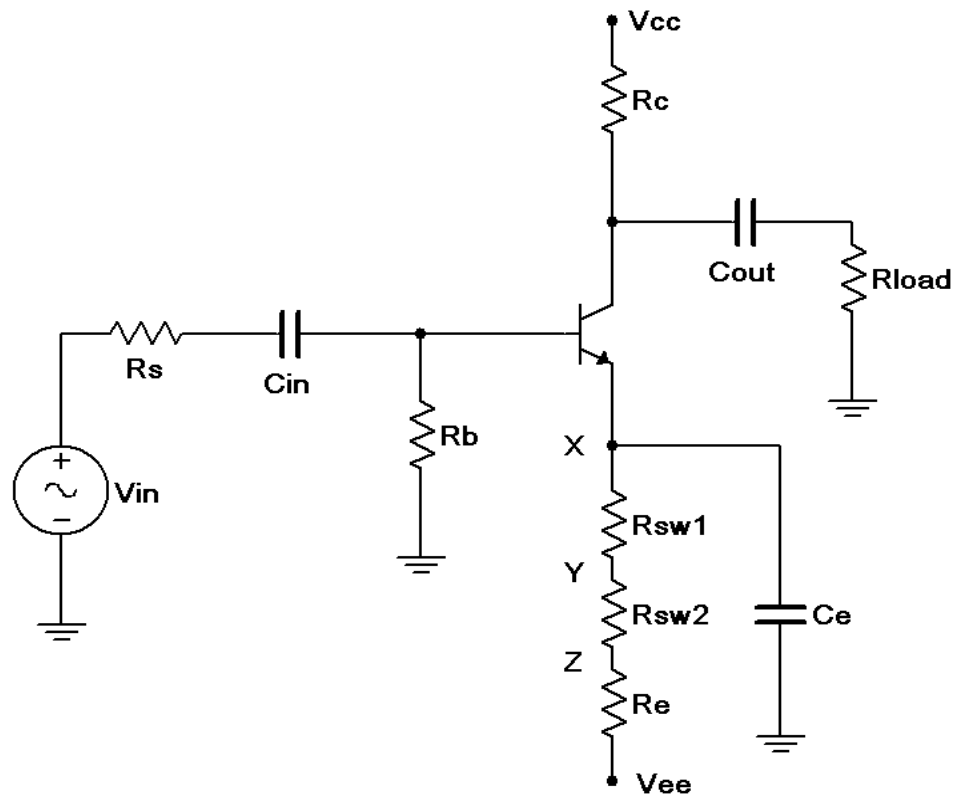

Figure 1
1. Consider the circuit of Figure 1 using $V_{cc} = 15$ volts, $V_{ee} = -12$ volts, $R_s = 10\text{ k}\Omega$, $R_b = 33\text{ k}\Omega$, $R_e = 22\text{ k}\Omega$, $R_{sw1} = 220\text{ }\Omega$, $R_{sw2} = 1\text{ k}\Omega$, $R_c = 15\text{ k}\Omega$, $R_{load} = 20\text{ k}\Omega$, $C_{in} = C_{out} = 10\text{ }\mu\text{F}$ and $C_e = 470\text{ }\mu\text{F}$. Using the approximation of a negligible DC base voltage, determine the DC collector current and r'_e , and record these in Table 1. Using the r'_e , calculate the expected Z_{in} , $Z_{in(base)}$, and A_v for the X, Y and Z connection points for C_e (shown at position X in the schematic). Record these in Table 2. If a transistor curve tracer or beta checker is not available to get an approximate value of beta for the transistor, estimate it at 150.
2. Build the circuit of Figure 1 using $V_{cc} = 15$ volts, $V_{ee} = -12$ volts, $R_s = 10\text{ k}\Omega$, $R_b = 33\text{ k}\Omega$, $R_e = 22\text{ k}\Omega$, $R_{sw1} = 220\text{ }\Omega$, $R_{sw2} = 1\text{ k}\Omega$, $R_c = 15\text{ k}\Omega$, $R_{load} = 20\text{ k}\Omega$, $C_{in} = C_{out} = 10\text{ }\mu\text{F}$ and $C_e = 470\text{ }\mu\text{F}$. Connect C_e to position X. Disconnect the signal source and check the DC transistor voltages to ensure that the circuit is biased correctly (note, the DC equivalent circuit is very similar to the ones used in the Emitter Bias Exercise and should exhibit similar DC voltage readings).